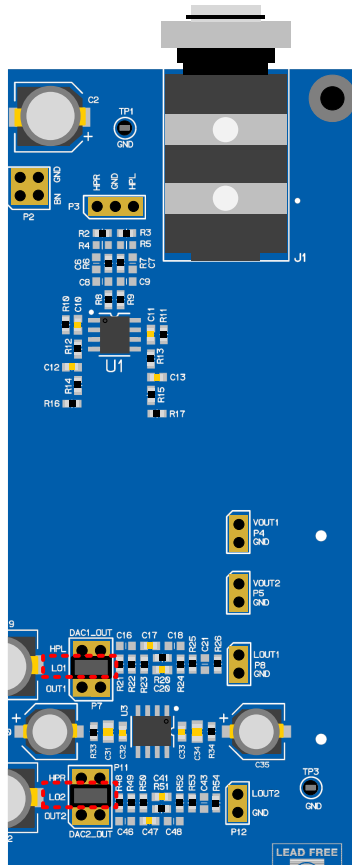

Figure 14: DAC Output to LOUT1/LOUT2
- LO1/2 – 4.2  $V_{RMS}$  output on Dunglass OUT3 and OUT4, shown in Figure 14.